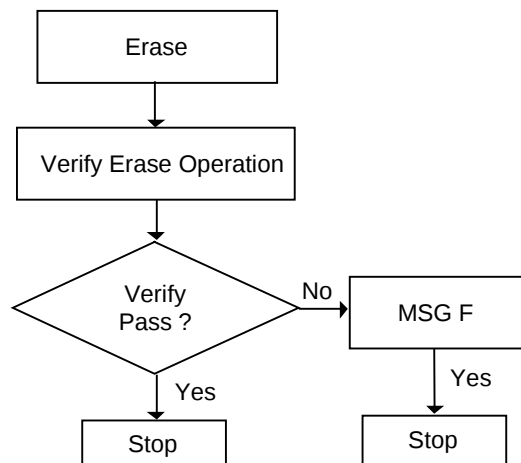

Figure 3. Erase Flow
To erase the device, follow the flow in Figure 3 and the timing according to Figure XXXX. Note that all NV-memory (user configuration bits and signature string) are erased with this operation. Recall that an ISP_ENABLE instruction must be executed prior to executing the erase operation. If verification of any logic one (1) state of any bit fails after performing the erase operation, then display the message **“Device Failed to Erase** and terminate the programming sequence with an ISP_DISABLE instruction.